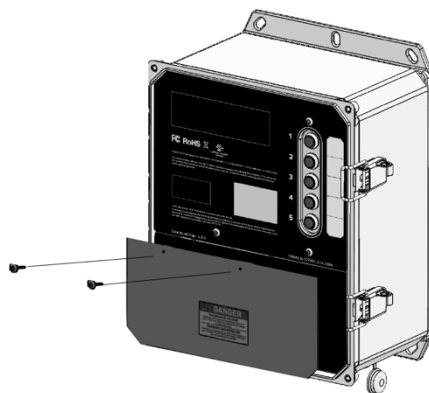

Figure 1
4. Using six (6) 0.25" diameter screws that can fit the 0.310" diameter mounting holes and capable of supporting 50 lbs. of weight, screw the CBS to the wall.
5. Remove the two screws and lower cover to access the bottom wiring compartment. (Figure 1). A flathead screwdriver may be used to help lift and remove the cover.
8. If you are not using an external antenna kit, place the lower cover back into position and tighten the two screws. (Figure 1)
5. Place the lower cover back into position and tighten the two screws. (Figure 1)